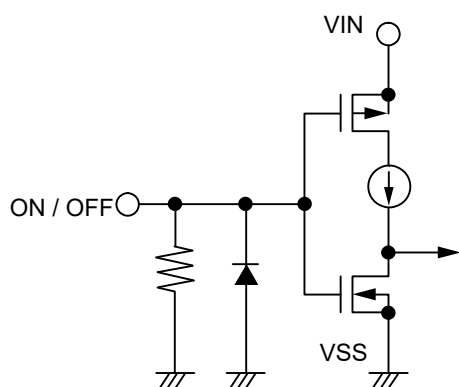
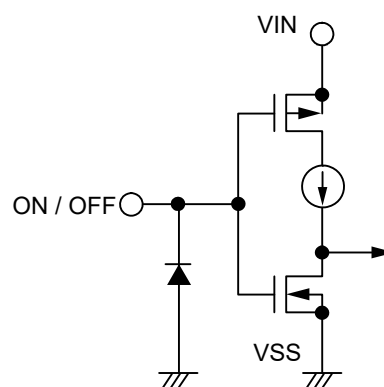

Figure 15 S-19255 Series A / C Type
Figure 16 S-19255 Series B / D Type
Note that the current consumption increases when a voltage of 0.25 V to $V_{IN} - 0.3$ V is applied to the ON / OFF pin. The ON / OFF pin is configured as shown in **Figure 15** and **Figure 16**.
*2. Note that the IC's current consumption increases as much as current flows into the pull-down resistor when the ON / OFF pin is connected to the VIN pin and the S-19255 Series A / C type is operating (refer to **Figure 15**).